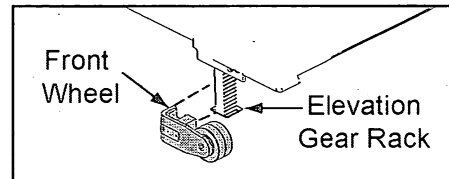

Figure 2
- Clip a wheel on each elevation gear rack. See Figure 2.